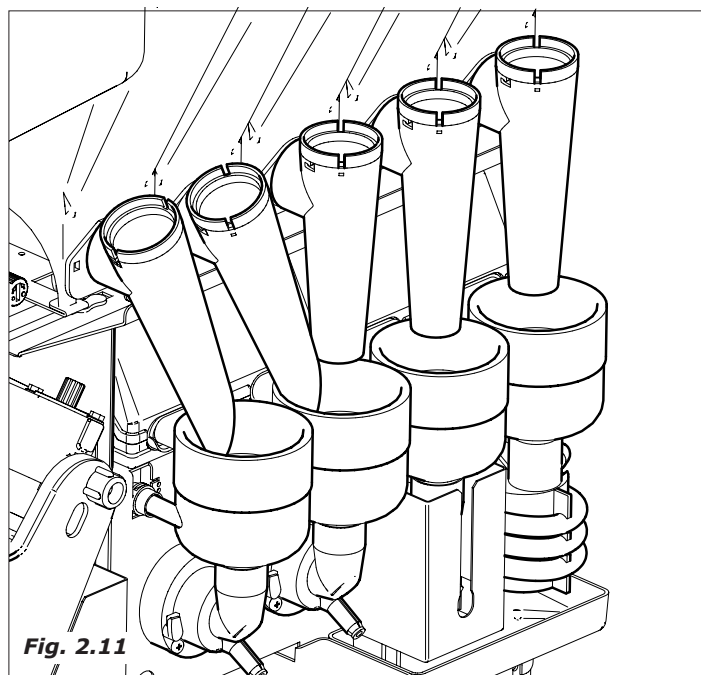

Fig. 2.11
- If present, the whipper motor is activated (Fig.2.11)